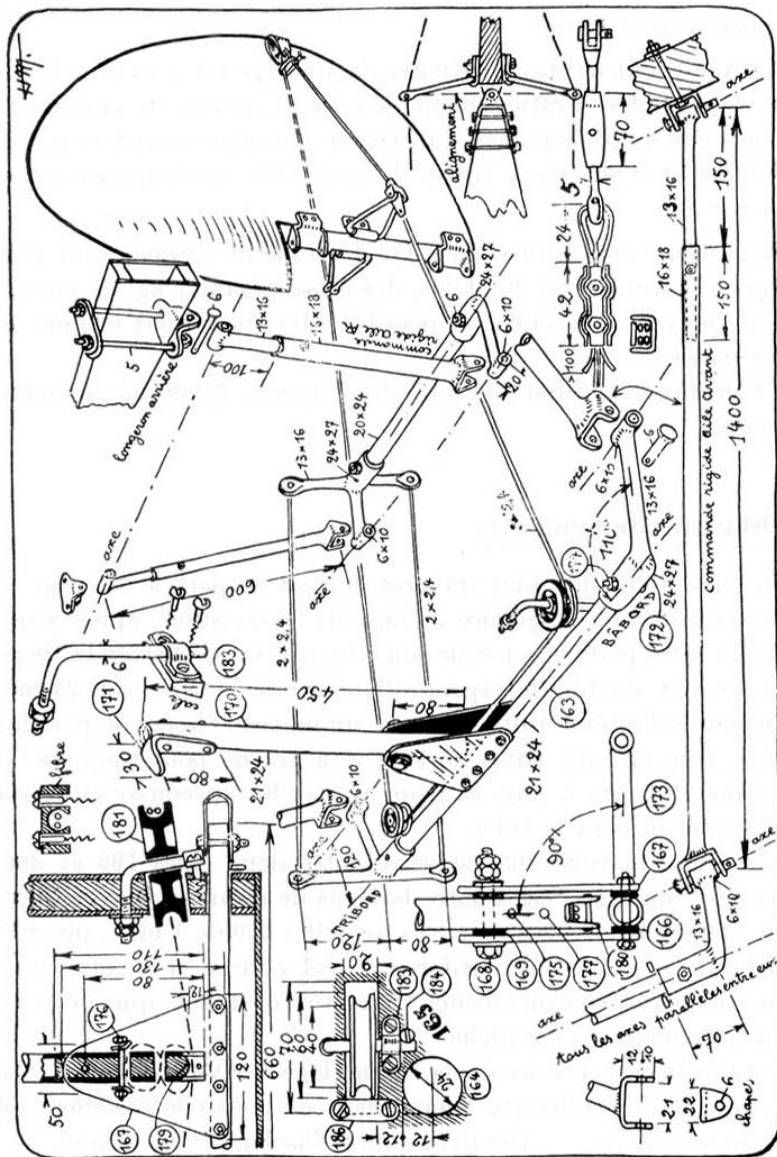

Figure 3.23: Layout of control system
A tube (163) (*fig. 3.23*) passes straight through the fuselage below the rectangular hole 26 (*Fig. 51*4). You will have to use a brace and bit to drill a hole (164) as seen at (165), and use a rasp to fit it to the diameter of the tube, *i.e.* 24mm.